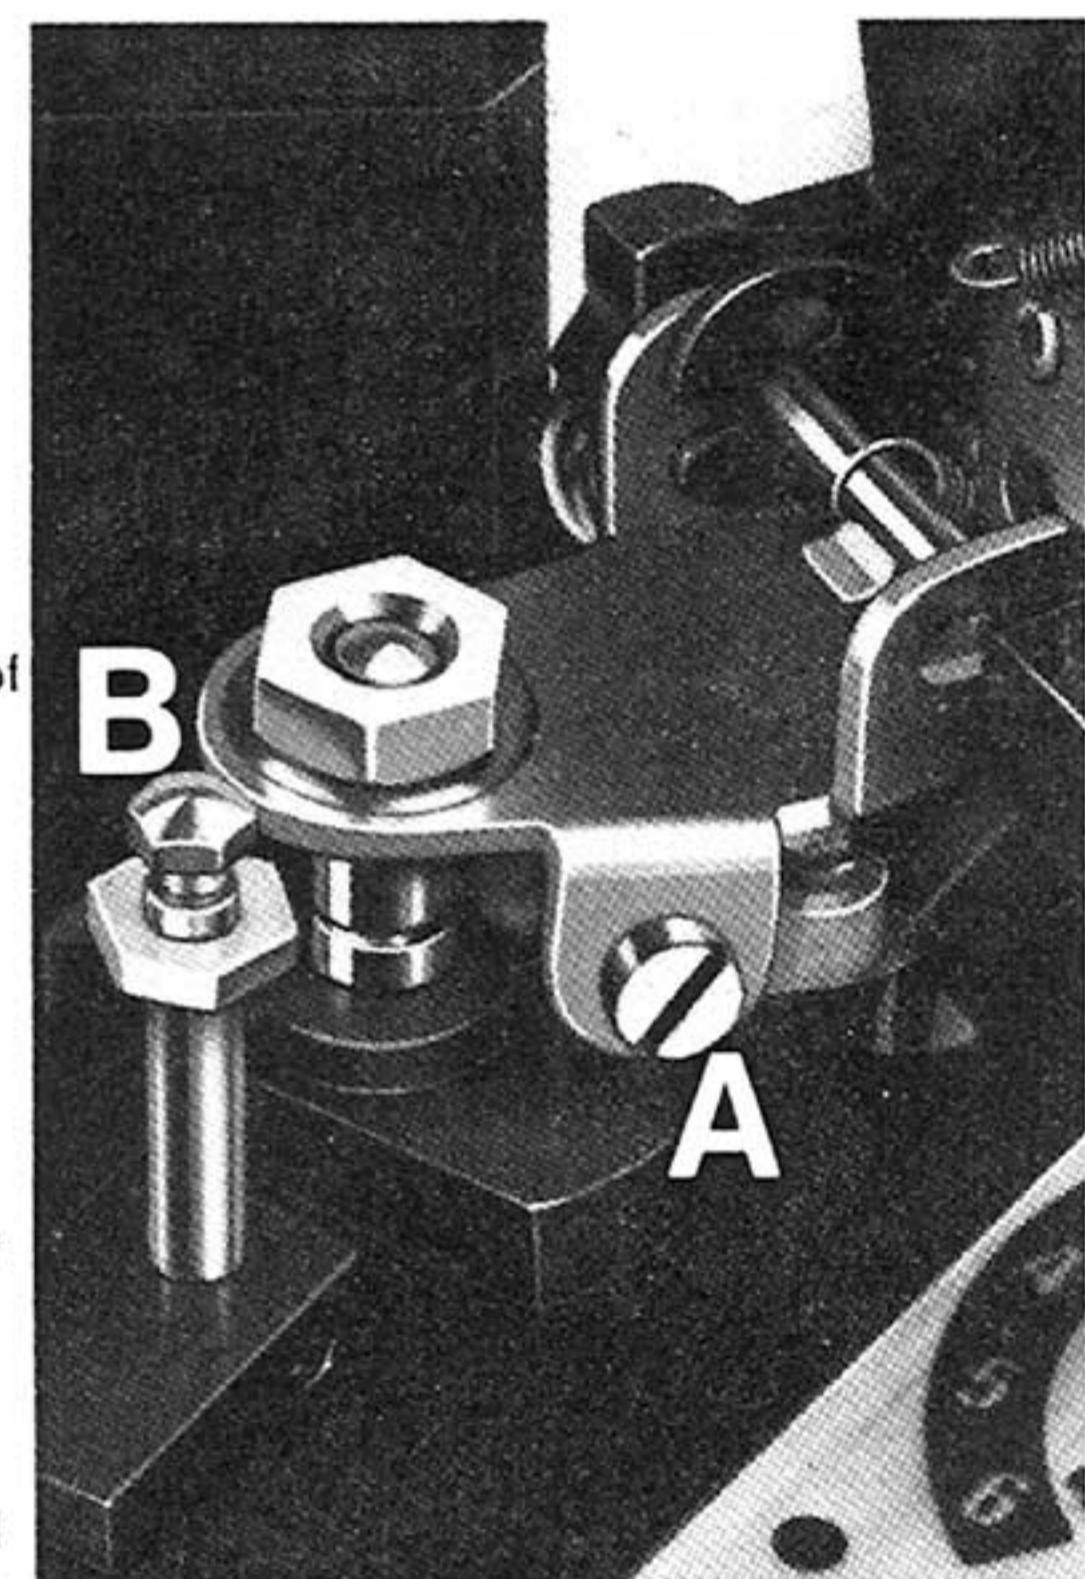

Fig. 4 PICK-UP HEIGHT AND SET DOWN ADJUSTMENT
3. **Stylus Set-down.** The correct position for stylus set-down is  $\frac{1}{8}$ " from the edge of the record. The position is adjusted by the stylus adjusting screw (Fig. 4, A) and is best done with a stack of 12" records on the turntable. When correctly positioned for a 12" record the set-down will also be correct for 7" and 10" records. Turn adjusting screw clockwise to move stylus set-down nearer to edge of record or anti-clockwise to move set-down further away from edge of record.
4. **Pick-up Arm Height.** The pick-up arm height is correctly adjusted when the stylus clears by  $\frac{1}{8}$ " the top of a stack of eight average thickness records on the turntable. The pick-up arm height may be raised by turning the pick-up height adjusting screw (Fig. 4, B) anti-clockwise and lowered by turning clockwise. After any adjustment a check must be made to ensure that the pick-up clears the underside of records held on the centre spindle ledge and is also secured by the automatic pick-up arm lock.